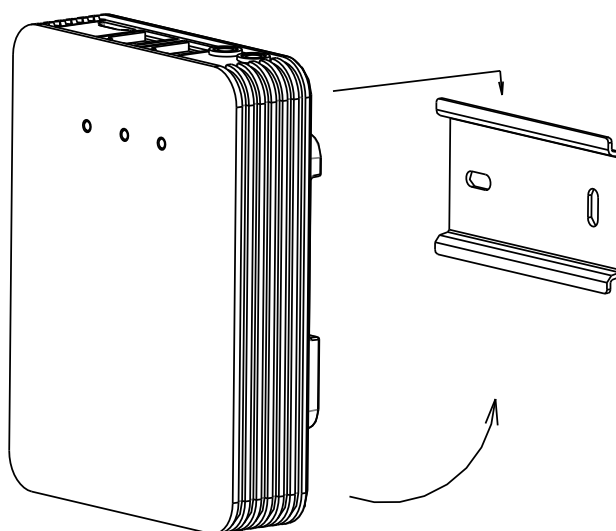

Figure 4-44 Buckle the Main Unit
2. Hang the hook which is on upper-side of the main unit onto the rail, press a little harder on the lower part of the main unit, and then the elastic clasp will be automatically buckled. As shown in Figure 4-44.